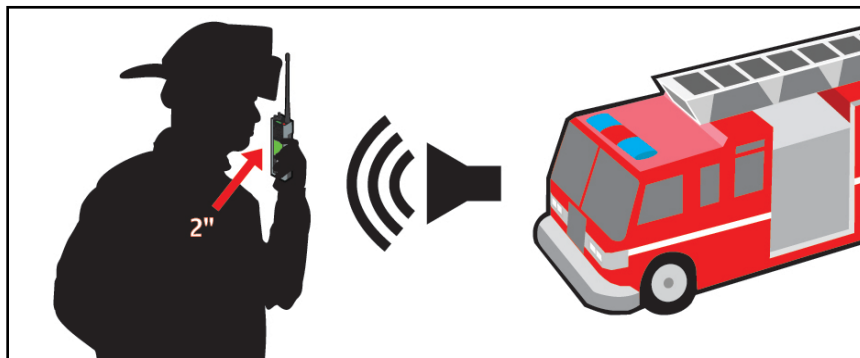

Figure 6-8: Using the Noise Cancellation Feature
- Talk within two (2) inches of primary microphone (see Figure 6-8).
- If possible, face the noise source when talking into the radio (see Figure 6-8).